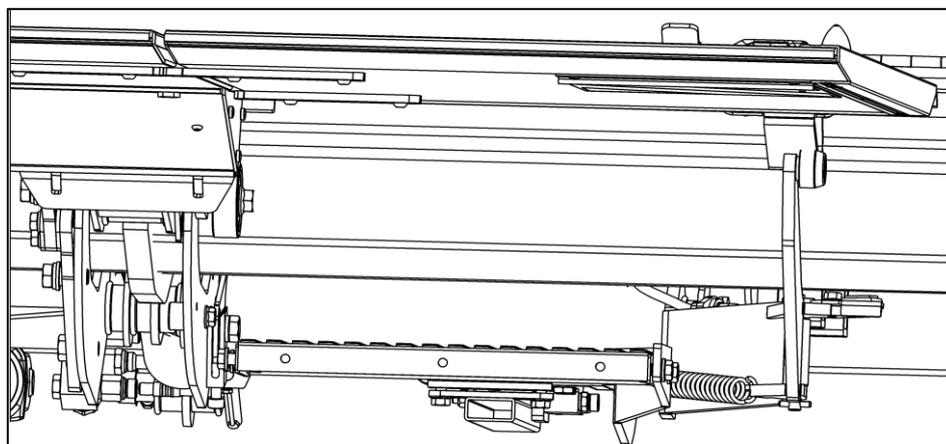

Fig. 79
- Rotating the adjustment screw (1) to the right lifts the support arm (4).
- Rotating the adjustment screw (1) to the left lowers the support arm (4) (see Fig. 79).
- When finished adjusting, tighten the bolt (3) for securing the torsion bar to